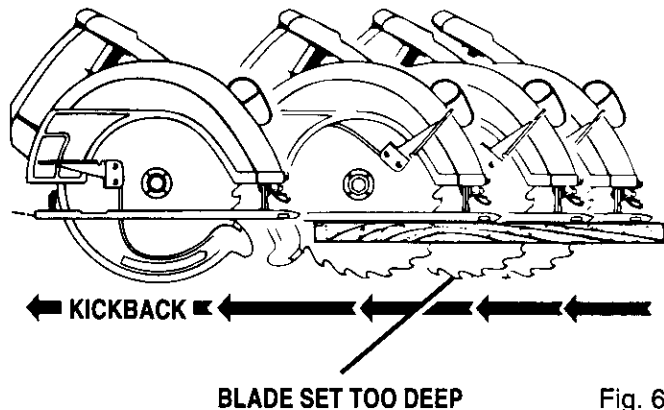

Fig. 6
*See Figure 6.*
- Incorrect blade depth setting. *See Figure 6.*